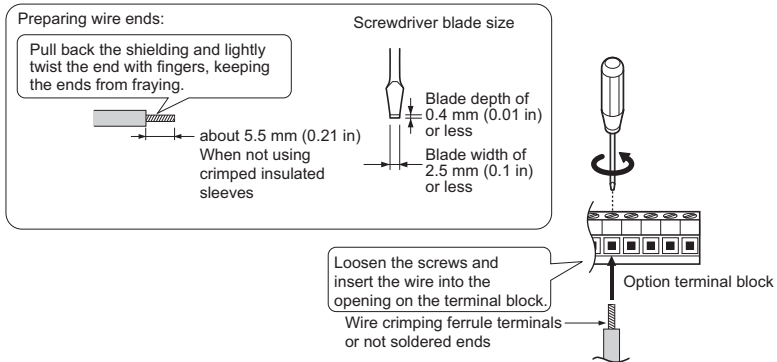

Figure 15 Connect Cable Wiring
5. Wire the customer-supplied digital input signal to the terminal blocks on the option according to Figure 15. Refer to Figure 26 for the DI-A3 Option connection diagram. Refer to Table 5 for a detailed description of the option terminal functions.